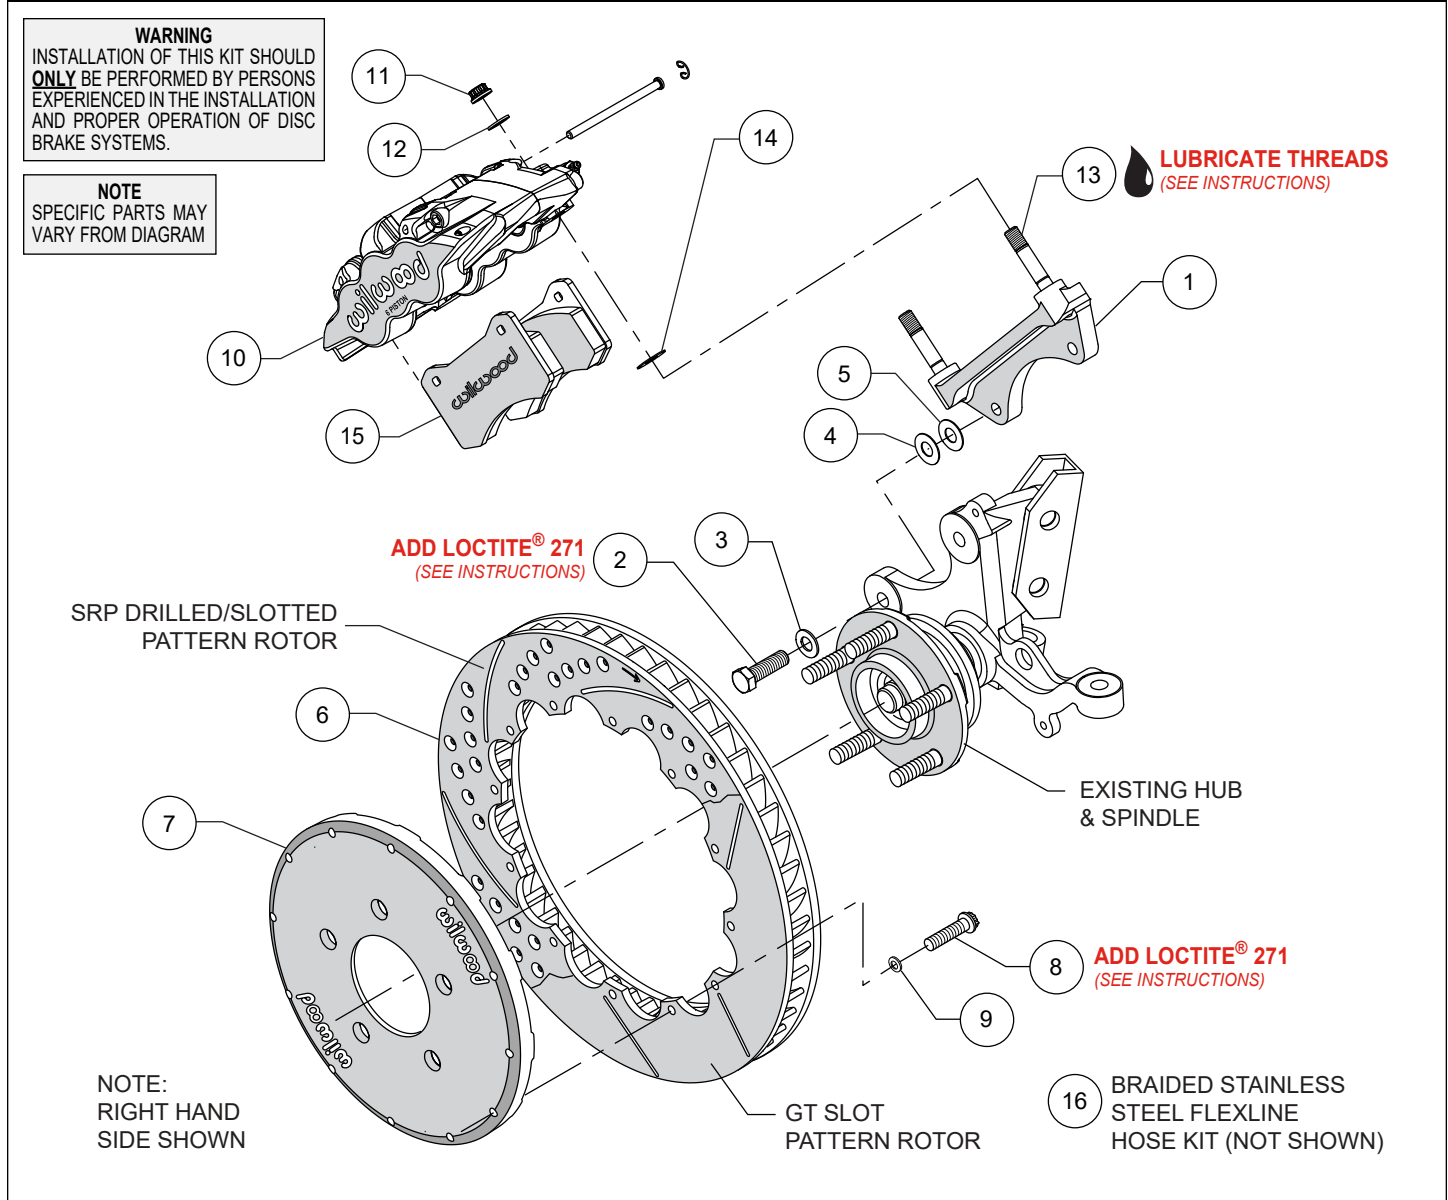
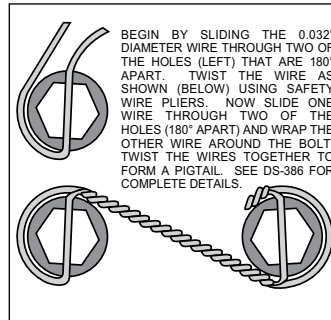

Figure 1. Typical Installation Configuration
Figure 3. Safety Wire Diagram
NOTE: Numbers in parenthesis refer to the parts list and Figure 1 on the preceding pages.
- The caliper mount bracket (1) should initially be installed with clean, dry threads on the mounting bolts. Orient the bracket, as shown in Figure 1 and Photo 1, and install using bolts (2) and washers (3). Initially place one .033" thick shim (4) on each bolt between the bracket and upright, Figure 1. Temporarily tighten the mounting bolts. **NOTE:** *The bracket must fit squarely against the mount bosses on the upright. Inspect for interference from casting irregularities, machining ridges, burrs, etc.* Later, after the caliper alignment has been checked, the mount bolts will be secured using red *Loctite*® 271.
- Orient the rotor (6) and the hat (7) as shown in Figure 1 and Photo 2. Attach rotor to hat using bolts (8) and washers (9). Apply red *Loctite*® 271 to the bolt threads and torque to 155 **in-lb** using a criss-cross pattern. For an added measure of security, the bolts may be safety wired using standard 0.032 inch diameter stainless steel safety wire as shown in Figure 3. Refer to Wilwood's data sheet DS-386 (available at www.wilwood.com/Pdf/DataSheets/ds386.pdf) for complete safety wire installation instructions.
- NOTE:** *This kit contains distinct right and left hand calipers that must be mounted in a specific direction, as described below.* Lubricate the caliper mounting studs (13) with lightweight oil. Initially place one .030" thick shim (14) on each stud between the caliper and the bracket, as shown in Figure 1 and Photo 4. Mount the caliper (10) onto the bracket (1) using lock nuts (11) and washers (12), Figure 1. Temporarily tighten the lock nuts. Ensure that the caliper is mounted so the largest pistons are at the rotor exit end of the caliper, in relation to the direction of the rotor. View the rotor through the top opening of the caliper. The rotor should be centered in the caliper, Photo 5. If not, adjust by adding or subtracting shims (4 and/or 5) between the bracket and the upright. Always use the same amount of shims on each of the two mounting bolts. Once the caliper alignment is correct, remove the bracket mounting bolts one at a time, apply red *Loctite*® 271 to the threads, and torque to 60 ft-lbs.
- Remove the caliper (10), then remove the two pad retaining pins from the caliper by carefully popping out the pin retaining clips and sliding out the pins. Insert the brake pads (15) into the caliper from the bottom, Figure 1 and Photo 6. With the friction material facing the rotor, secure the brake pads in place with the pad retaining pins and clips, Photo 7. Reinstall the caliper onto the caliper mounting bracket and temporarily tighten the lock nuts (11).